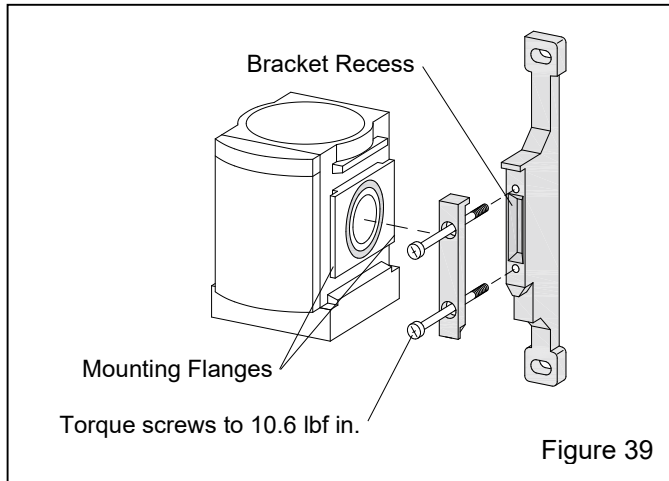

Figure 39
7.10.3 After installing the O-ring, place the part against the one next to it, making sure the flanges on the parts fit into the recess on the bracket, as shown in Figure 39.